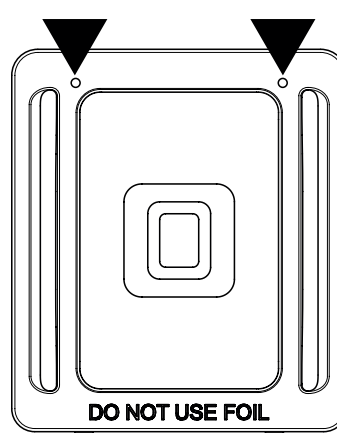

Figure 14a
- Remove the two screws from the rear of the oven bottom. Lift the oven bottom out of the cavity (see Figure 14a).